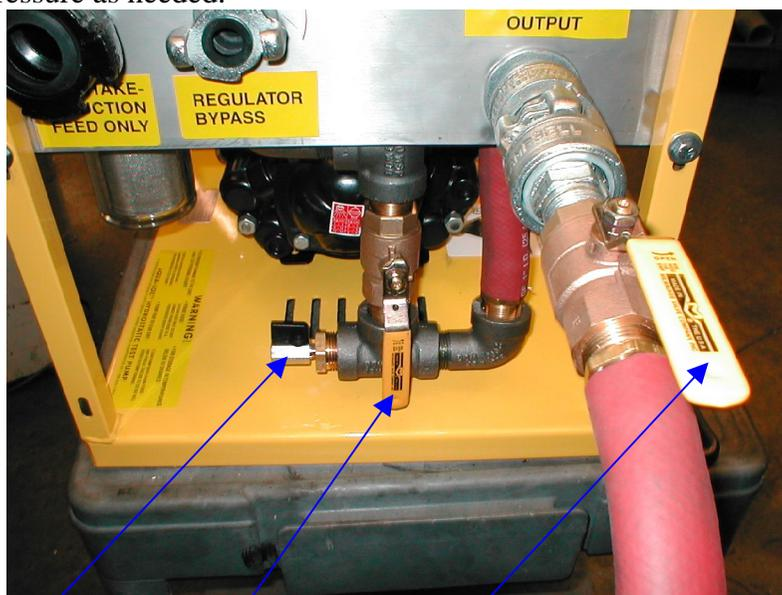

Figure 2 The drain valve, pump ball valve and hose ball valve are all shown in the open position.
5. Connect high-pressure output hose. Close drain valve if open (see Figure 2).
6. Close the 1" ball valve on the high-pressure output hose. The 1" ball valve on the pump should be open (see Figure 2).
1. Loosen the lock nut on the pressure relief valve (see Figure 2).
1. Close the 1" ball valve on the high pressure output hose (see Figure 2). Shut off engine.
2. Slowly open drain valve (see Figure 2). When gauge on pump reads zero, disconnect all hoses from pump.
6. Close drain valve (see Figure 2).